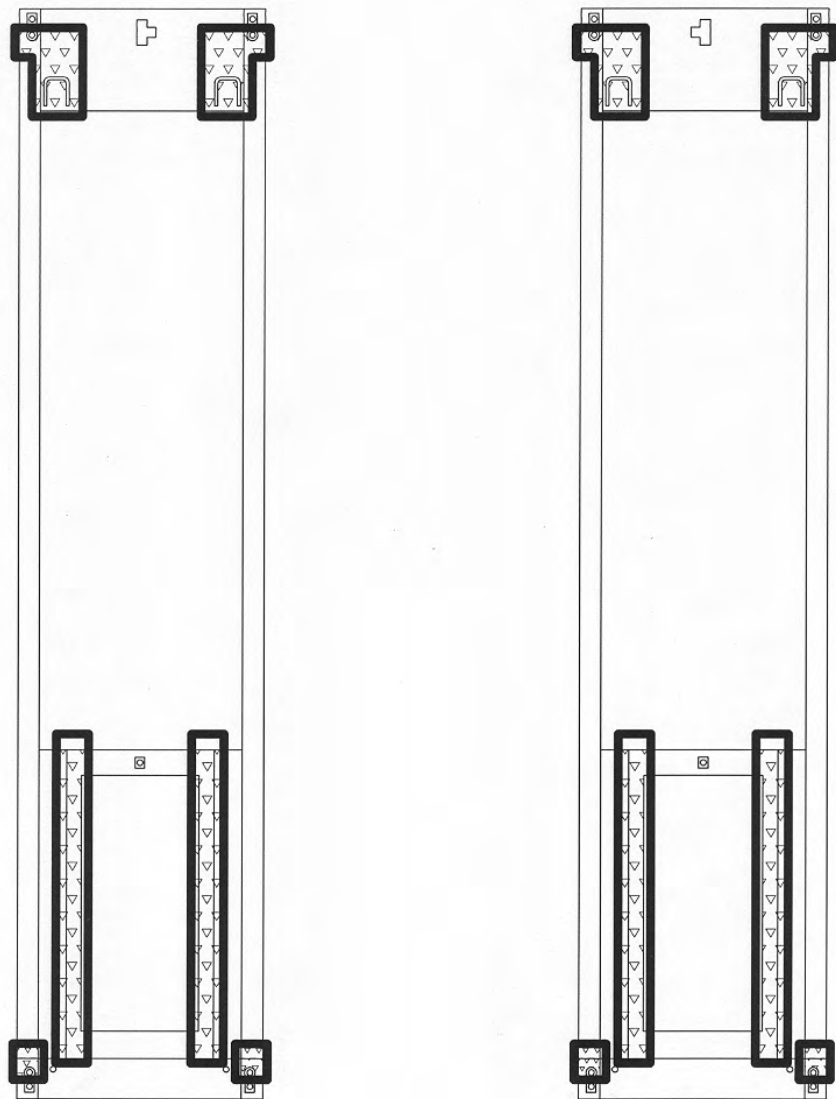

Figure 21 - Shimming
2. Level the baseframes using the leveling bolts provided at each of the four (4) corners.
3. Use shims provided to support under glide block area of baseframe and under front hinges. See **Figure 21**.